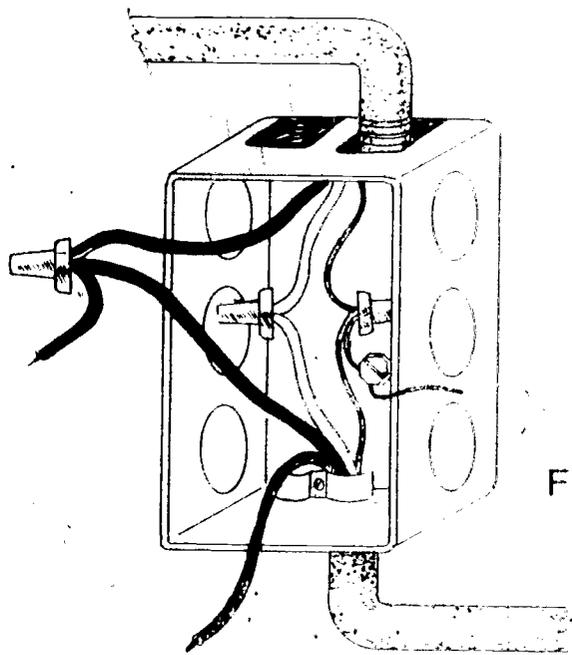

FIGURE 4
K. Make up switch box (Figure 4)